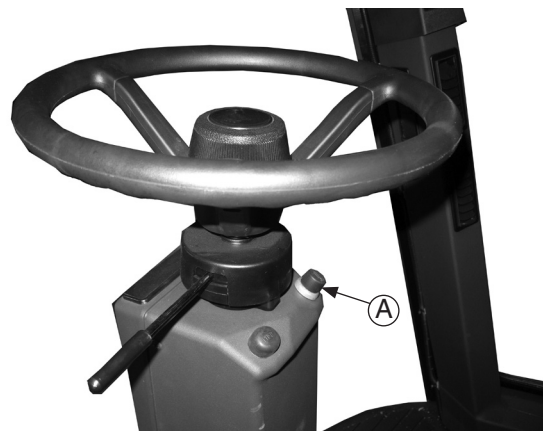

Figure 23. Horn
Press button (A) to sound horn (see Figure 23).